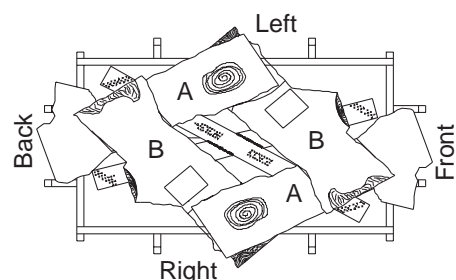

Figure 45 - Installing Logs "B" (Top View)
9. Place logs "B" as shown in Figure 45, page 19. Lift the end of log "A" that will be propped up and place log "B" under it. At the same time, the other side of log "B" is placed over the other log "A". Repeat procedure for the other log "B".